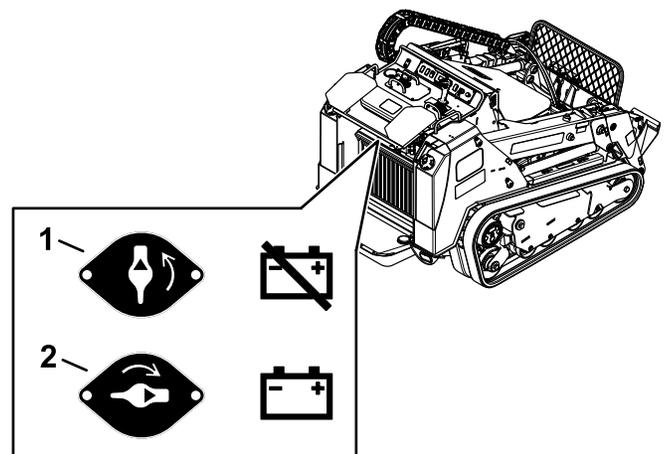

Figure 62
- To energize the machine electrically, rotate the battery-disconnect switch clockwise to the ON position (Figure 62).
- To de-energize the machine electrically, rotate the battery-disconnect switch counterclockwise to the OFF position (Figure 62).